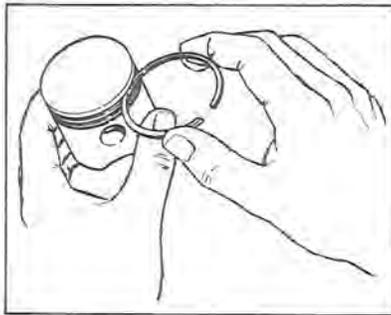
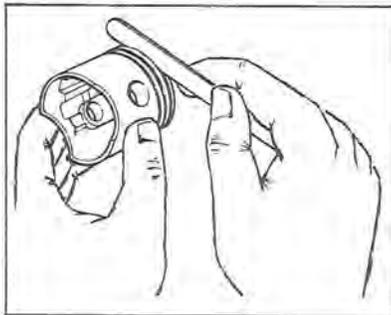

Figure 8-13
Figure 8-14
- d. Check each ring in its respective ring groove for tightness or binding by rolling the ring around the piston groove (see Figure 8-13). Check for groove side clearance with feeler gage (see Figure 8-14) (see Section 11, Specifications).